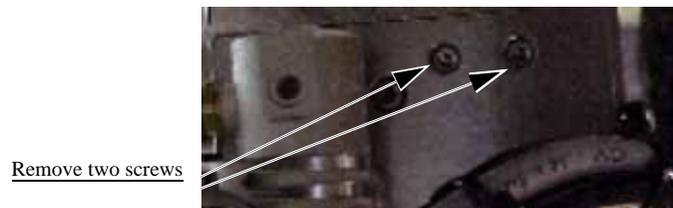

Figure 6-89—Removing upper screws
- 6b) Using a 2.5mm Allen wrench, remove the two upper screws that hold the PNP head in place. See *Figure 6-89*.